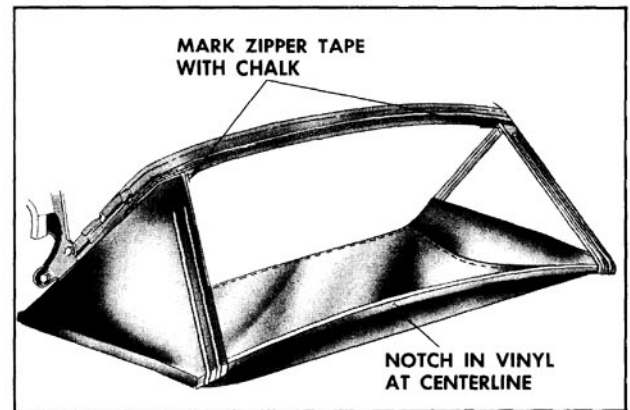

Fig. 16-455 Marking Zipper Tape
14. Using chalk or similar material, mark zipper tape at upper edge of vinyl. (Fig. 16-455)
NOTE: Notch in back curtain vinyl at lower edge indicates centerline of back curtain assembly. (Fig. 16-455) In addition, back curtain lower edge should extend approximately 1/2" below lower edge of trim sticks.